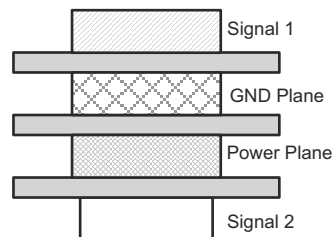

Figure 12-5. Four-Layer Board Stack-Up
8. Due to high frequencies associated with the USB, a printed circuit board with at least four layers is recommended; two signal layers separated by a ground and power layer as shown in Figure 12-5.